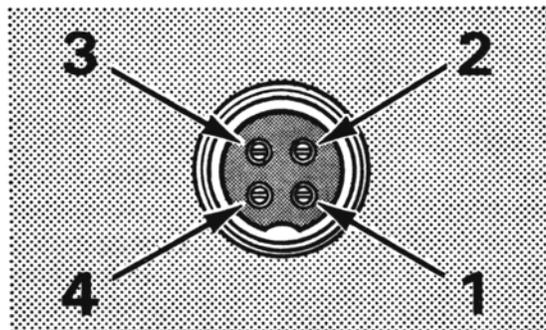

Figure 3. Microphone Plug Pin Numbers Viewed from Rear of Pin Receptacle
5. The wires must now be soldered to the pins as indicated in the above wiring tables. If a vise or clamping tool is available it should be used to hold the pin receptacle body during the soldering operation, so that both hands are free to perform the soldering. If a vise or clamping tool is not available the pin receptacle body can be held in a stationary position by inserting it into the microphone jack of the front panel. The numbers of the pins of the microphone plug are shown in Figure 3, as viewed from the back of the plug. Before soldering the wire to the pins, pre-tin the wire receptacle of each pin of the plug.